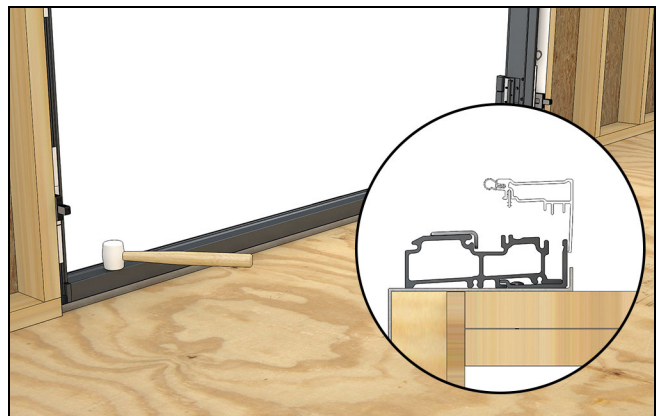

Figure 45
11. Install the interior sill cover. The cover fits over the vertical leg of the sill support and snaps onto the door sill. Use a rubber mallet to seat the cover on the sill. See Figure 45.